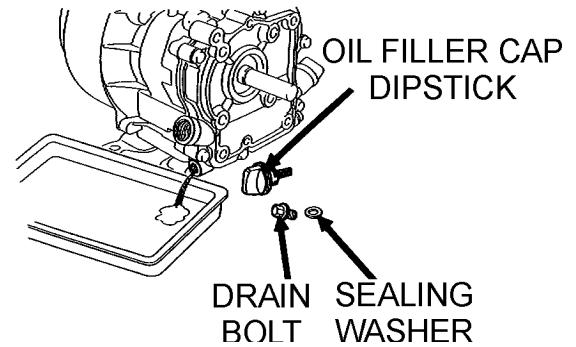

Figure 20. Draining Engine Oil
1. Drain the engine oil when the oil is warm as shown in Figure 20.